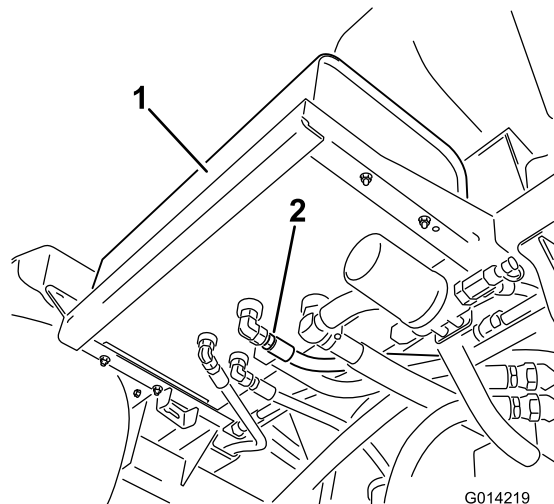

Figure 99
2. Clean the area around a hydraulic-hose fitting on the bottom of the hydraulic-fluid tank (Figure 99).
4. Remove the hose fitting from the tank, allowing the fluid to drain into the pan (Figure 99).